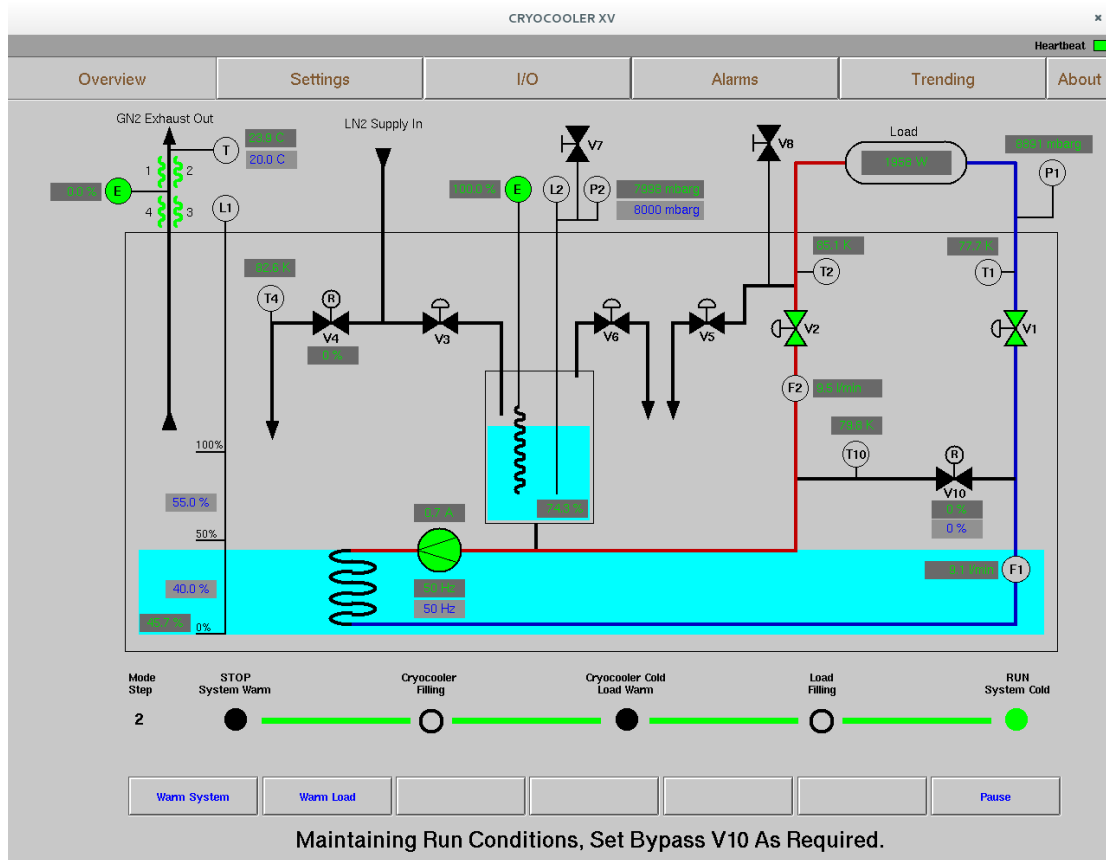

Figure 8: GUI Overview Page for Cryocooler XV
- The page data area: displaying the page (screen) of data selected by the buttons on the header bar. The default page is the Overview (Figure 8).